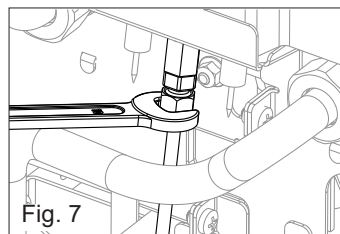

Fig. 7
- Disconnect the pilot flame tube (fig. 7)